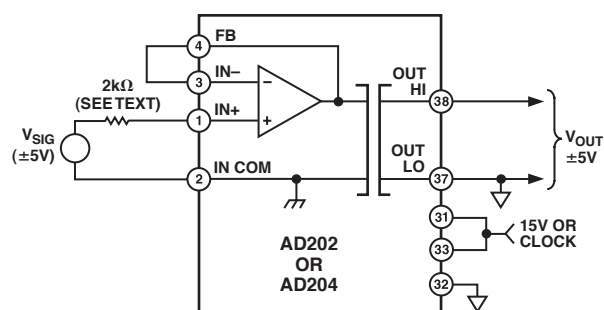
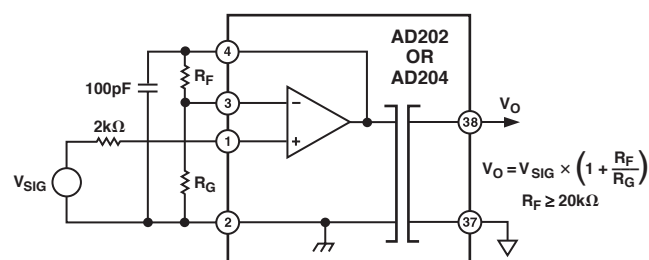

Figure 5. Basic Unity-Gain Application
Figure 6. Input Connections for Gain > 1
**Input Configurations.** The AD202 and AD204 have been designed to be very easy to use in a wide range of applications. The basic connection for standard unity gain applications, useful for signals up to  $\pm 5\text{ V}$ , is shown in Figure 5; some of the possible variations are described below. When smaller signals must be handled, Figure 6 shows how to achieve gain while preserving a very high input resistance. The value of feedback resistor  $R_F$  should be kept above 20 k $\Omega$  for best results. Whenever a gain of more than five is taken, a 100 pF capacitor from FB to IN COM is required. At lower gains this capacitor is unnecessary, but it will not adversely affect performance if used.
The noninverting circuit of Figures 5 and 6 can also be used to your advantage when a signal inversion is needed: just interchange either the input leads or the output leads to get inversion. This approach retains the high input resistance of the noninverting circuit, and at unity gain no gain-setting resistors are needed.